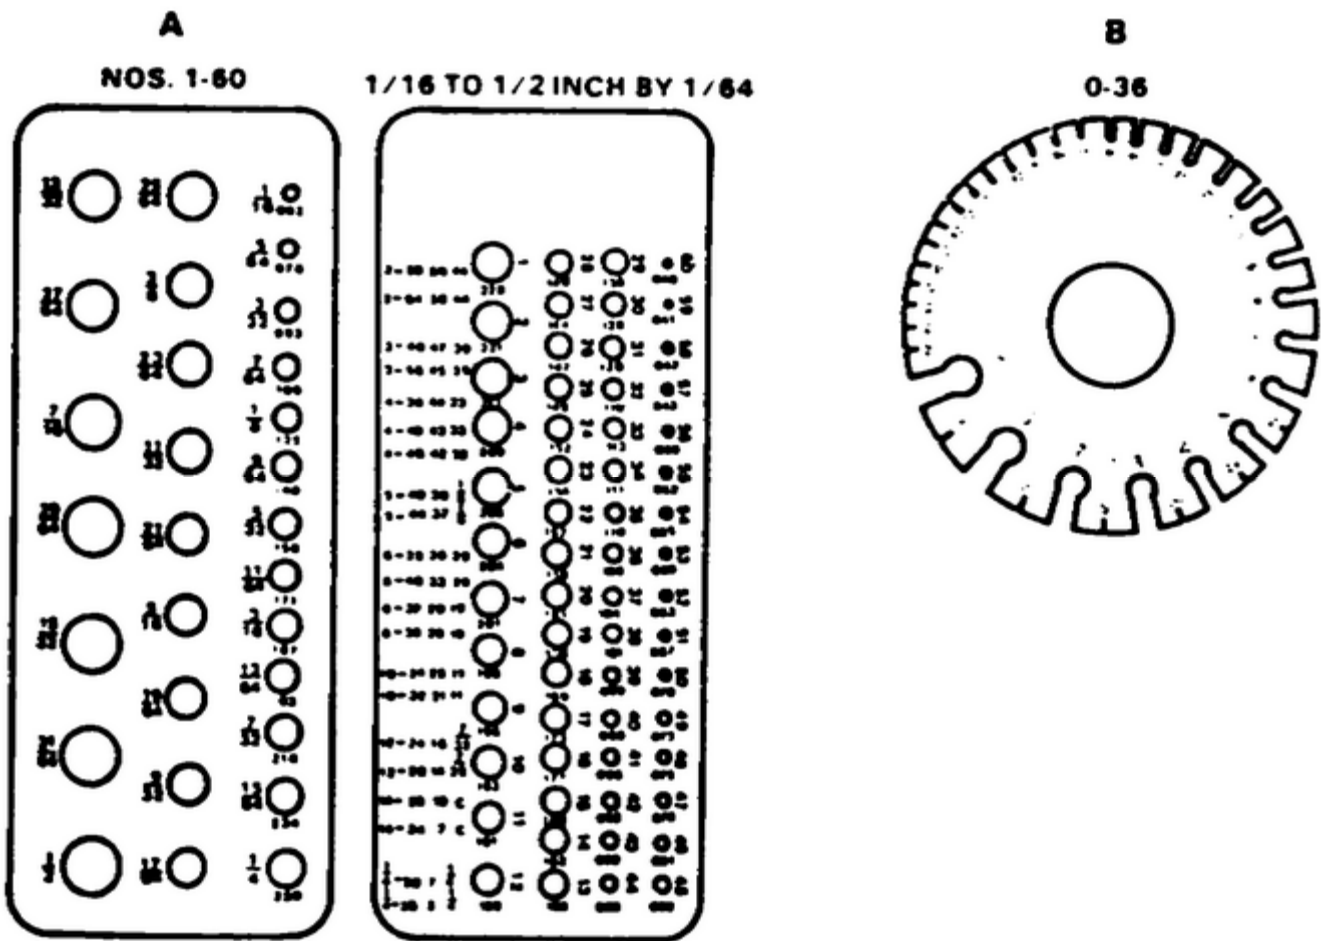

FIGURE 50. WIRE AND DRILL GAGES (PARTS A AND B)
- a. The twist drill and drill rod gages, Figure 50, Part A, each have a series of holes with size and decimal equivalents stamped adjacent to each hole. One gage measures drill sizes numbers 1 to 60; the other gage measures drill sizes  $1/16$  to  $1/2$  inch by  $1/64$ -inch intervals.
- b. Wire gages, Figure 50, Part B, are circular in shape with cutouts in the outer perimeter. Each cutout gages a different size wire, from 0 to 36 of the English standard wire gage. A separate gage is used for American standard wire and another for US standard sheet and plate iron and steel.